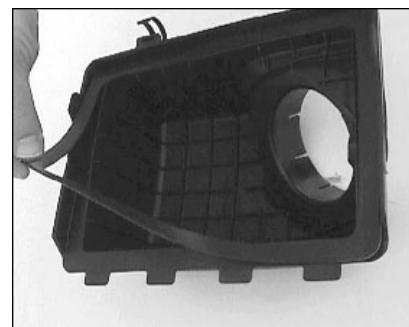

Fig. 2
8. Apply the self-adhering gasket to the channel on the inside of the airbox cover. (Fig 2)